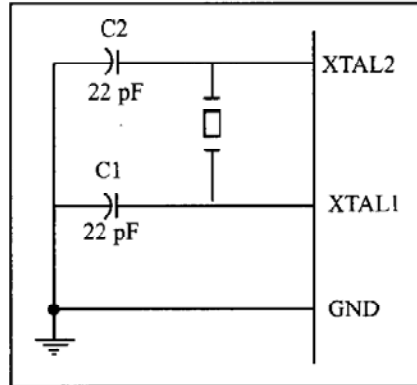

Figure 8-6b. XTAL1-XTAL2 Connection to Crystal Oscillator
- The most widely used option is to connect the XTAL1 and XTAL2 pins to a crystal (or ceramic) oscillator, as shown in Figure 8-6b.